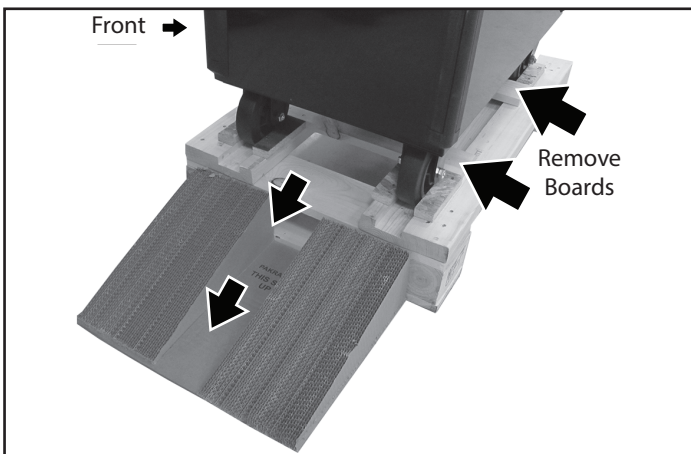

Figure 4
- Facing the front of the cart, place the ramp on the right side of the pallet (Figure 4).
- Remove the wheel chock boards from the pallet (Figure 4).
- Unlock the caster locks and then carefully PUSH the cart off the pallet (Figure 4).